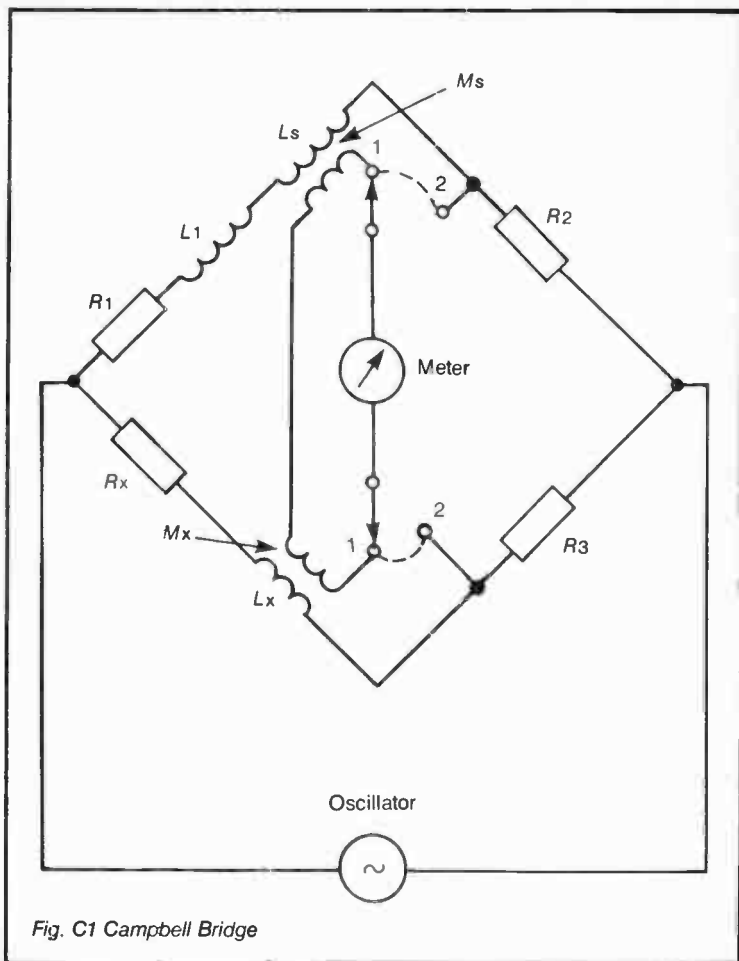

Fig. C1 Campbell Bridge
**CAMPBELL BRIDGE** is one of the more complicated a.c. bridge networks designed for the measurement of mutual inductance by comparison of the unknown mutual inductance with a standard one. The circuit is shown in Figure C1 and in this the unknown mutual inductance is labelled  $M_x$  and the standard one,  $M_s$ . With the switches in position 2, the resistances and inductances of the primary windings are first balanced by adjustment of  $L_1$  and  $R_1$ . Subsequently with the switches in position 1, the mutual inductance balance is obtained by adjustment of  $M_s$ . Then: